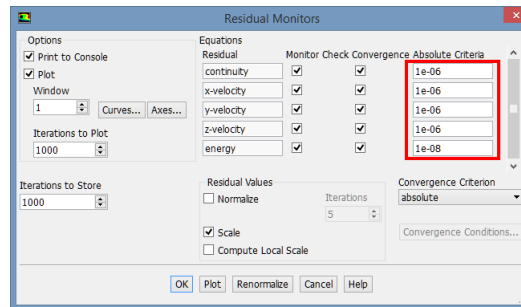

Figure 48: Convergence criteria in the *Residual Monitors* dialog box.
- (b) Change the values for the Convergence Absolute Criteria from 0.001 to  $1 \times 10^{-6}$  for the continuity and velocity components, and from  $1 \times 10^{-6}$  to  $1 \times 10^{-8}$  for the energy equation, as illustrated in figure 48.